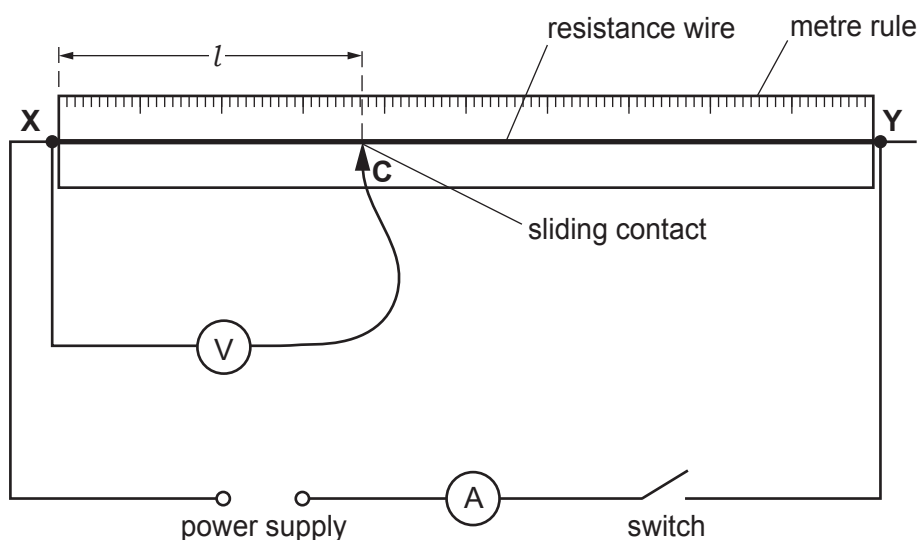

Fig. 3.1
2. The circuit shown in Fig. 3.1 must be set up for the candidates.